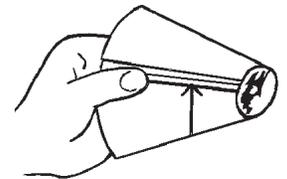

Figure 15
5. Roll the transition cone somewhat tightly in your hand (Figure 15). Then carefully unroll it and align the dotted line to the opposite edge. The small opening will be 1" in diameter. Tape the cone along the seam with transparent adhesive tape.